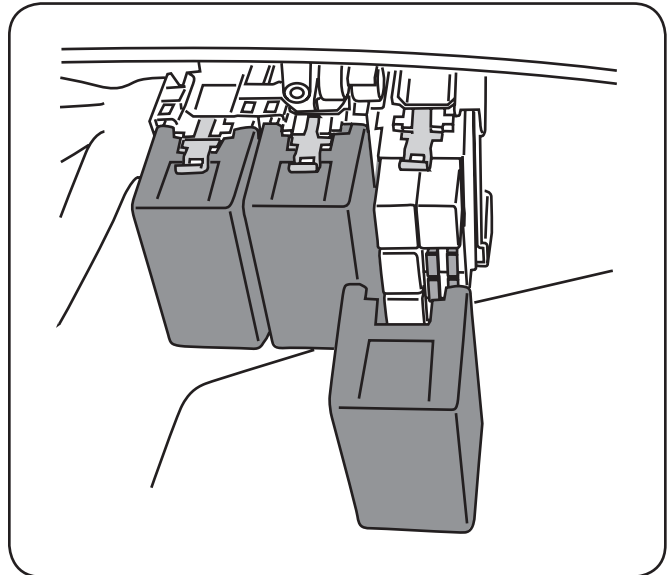

Figure 6-2
2. Remove fuse holder cover. See Figure 6-2.